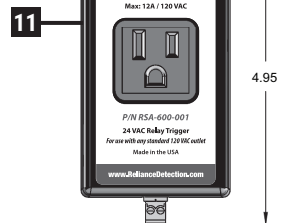

**FIGURE 3 –
8. Place the sensor(s) where water is most likely to first accumulate (such as the drain pan or the floor next to the tank). The sensor is magnetic and can be installed horizontally or vertically in conjunction with the metal plate – see Figure 3.